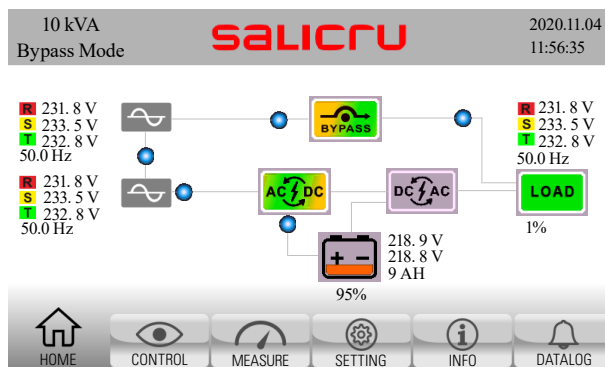

Fig. 55. Main screen in bypass mode. The power flow goes directly from the bypass input to the output, via the static bypass switch.
2. The loads switch to being supplied directly from the static bypass line. Check that the unit's synoptic corresponds to the one in Fig. 55 (unit in bypass mode).
11. The <3A> alarm "maintain is open" disappears. Check that the unit's synoptic corresponds to the one in Fig. 55 (unit in bypass mode).
- b. The UPS switches automatically from standby mode to bypass mode, the loads switch to being supplied directly from the static bypass line. Check that the alarm <OB> "EPO active" disappears. Also check that the unit's synoptic corresponds to the one in Fig. 55 (unit in bypass mode).